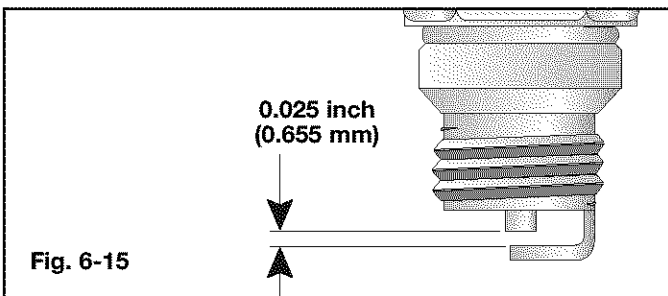

Fig. 6-15
3. Replace cracked, fouled or dirty spark plug. Set the air gap at 0.025 inch (0.655 mm) using a feeler gauge (Fig. 6-15).